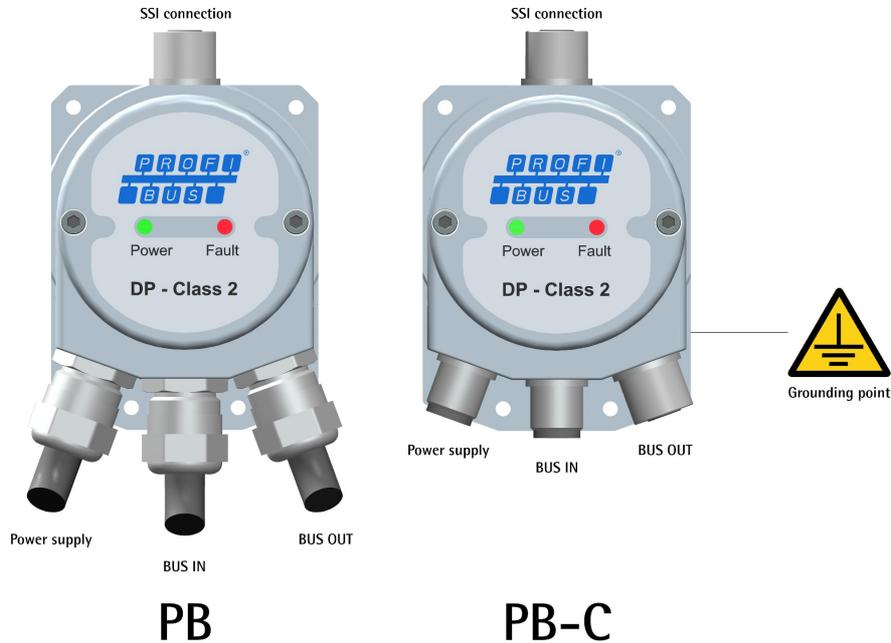

Figure 4
**4.2 SSI connection (Figure 4)**
**4.3 Profibus converter with PGs: PB version (Figure 4 and Figure 6)**
4.4 Profibus converter with M12 connectors: PB-C version (Figure 4 and Figure 7)